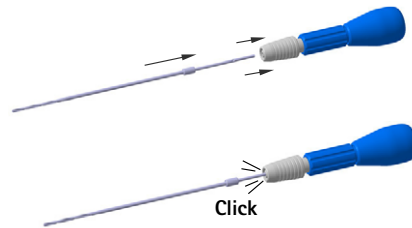

Fig. 3 Assembling the drill
- Insert drill in the drill handle (FJ839R), see Fig. 3.